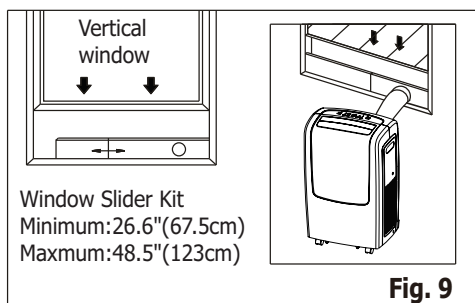

Fig. 9
6. Affix the adaptor B into the window slider kit and seal. (Fig. 9&10)